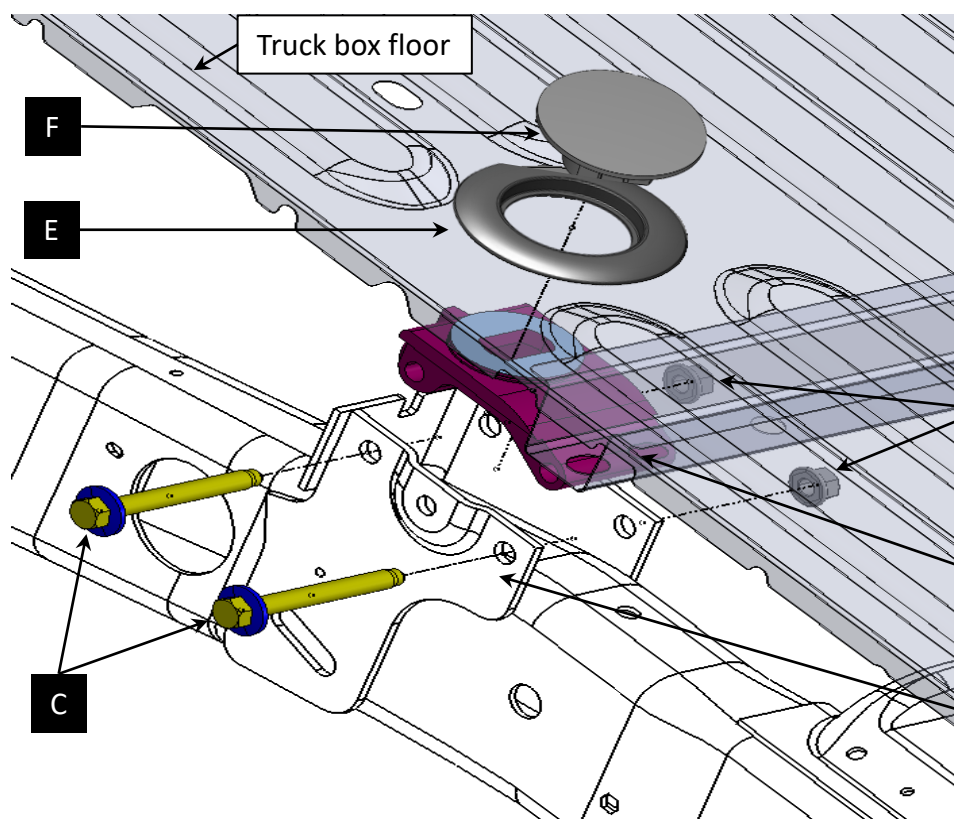

Figure 2
- 5) Install part 'A' 5th wheel receiver front in frame bracket as shown in (Fig. 2), **NOTE ORIENTATION**.
- 7) Fasten casting (both sides) through the frame bracket carrier using (2) M14-1.5x120mm bolts and (2) M14-1.5 nuts (parts 'C' & 'D'). (Fig. 2)